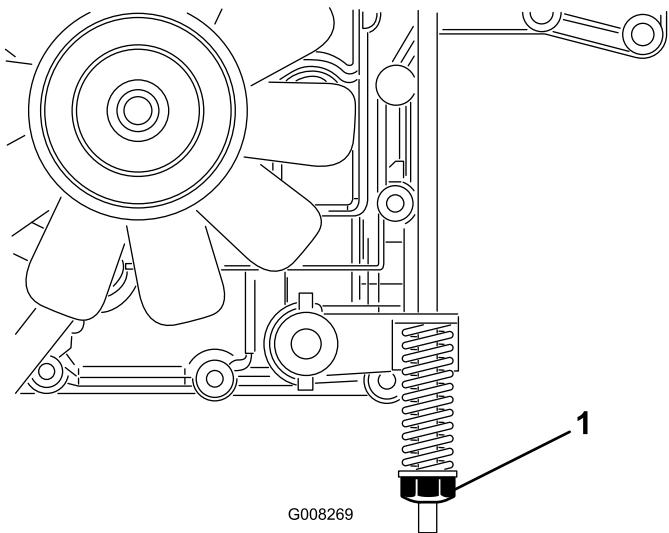

Figure 32
The brake is located on the right side of the rear axle, inside the rear tire (Figure 32).
3. Turn the brake adjusting nut clockwise until you cannot push the machine (Figure 32).